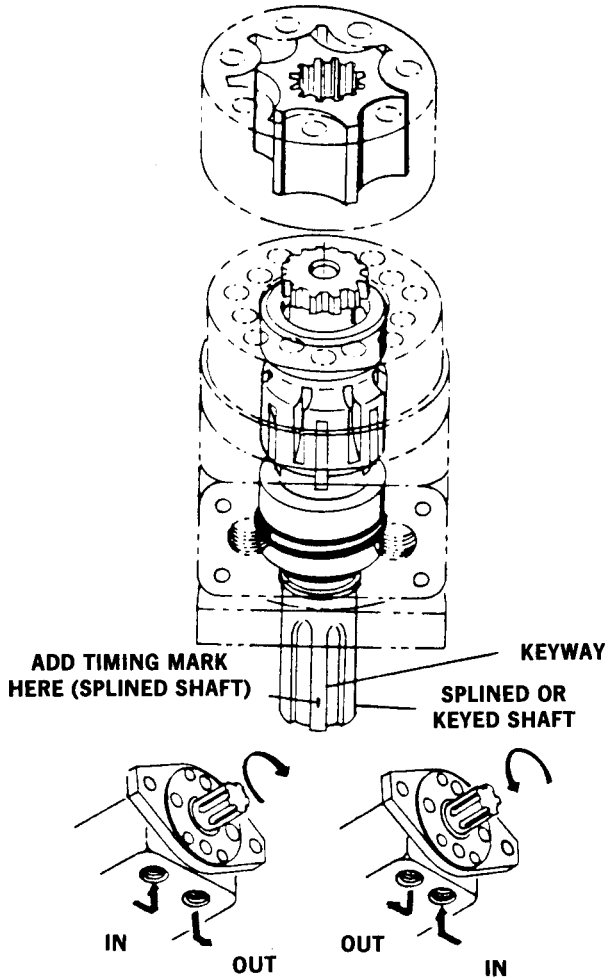

Figure 9-2. Output Shaft Timing
Make a mark (with a grease pencil) on output shaft (8) with a forward valving slot to facilitate timing as shown in figure 9-2.
The relationship between gerotor star, drive, and spool determines the timing or rotation of the shaft. Ensure the shaft and housing are assembled as shown in the Output Shaft Timing (figure 9-2).
j. Insert drive (11) in housing. Note that the centerline falls between teeth of spline.
k. Place gerotor set (13) over drive splines with any one of star points 15 degrees to right of centerline. With this orientation, shaft will rotate in direction shown in the Output Shaft Timing (figure 9-2), with ports pressurized as marked.
l. Place end cap (14) imposition on housing and and realign attach screw holes, being careful not to disengage gerotor from drive splines.